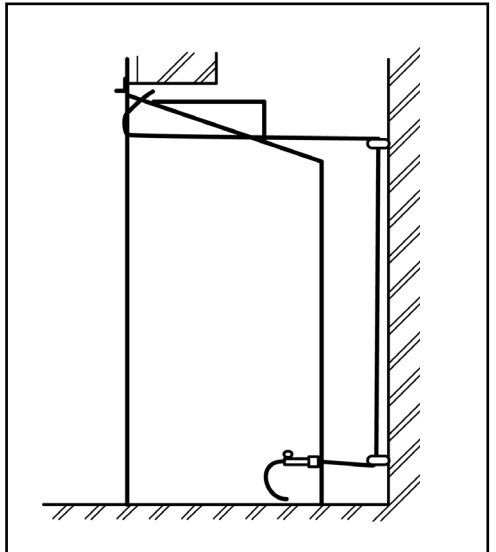

Figure 21. Cable Route
6. Thread the cables through the eyebolts. Return the cables through the holes near the bottom of the convection box back panel - See figure 21 (**For precast or clay block flue systems return the cables through the slotted holes in the side of the convection box**).